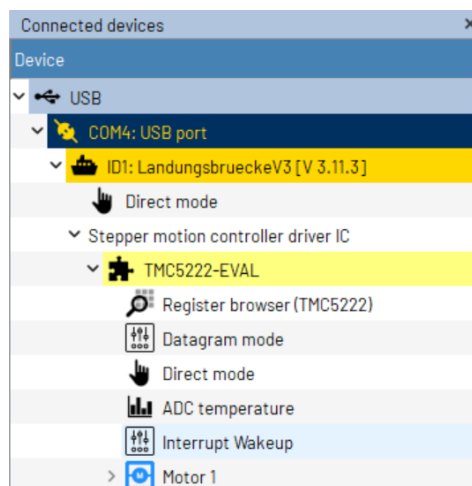
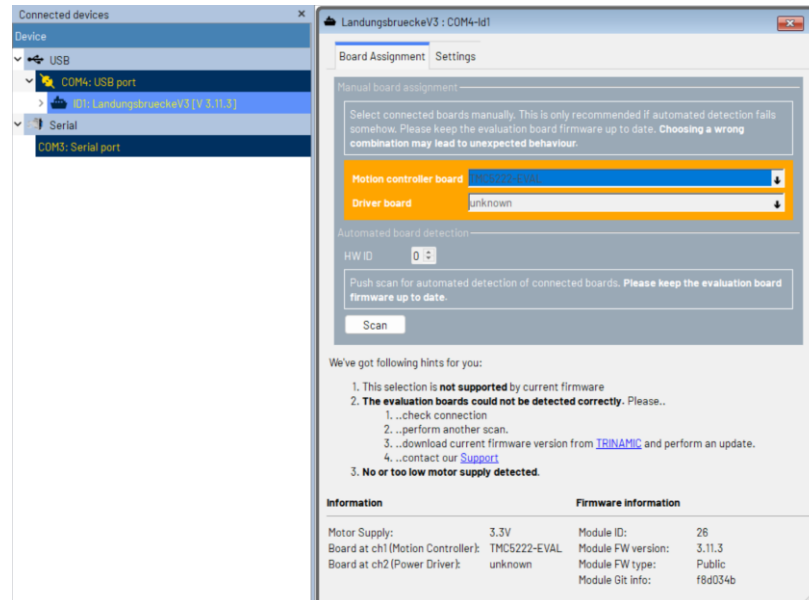

Figure 2. TMCL-IDE Device Tree
Figure 3. TMCL-IDE, Manual Selection of a Board
2. Open the IDE. The board is detected automatically and appears in the **Device** tree (Figure 2). If the board is not detected automatically, manually select it by following the steps shown in Figure 3.